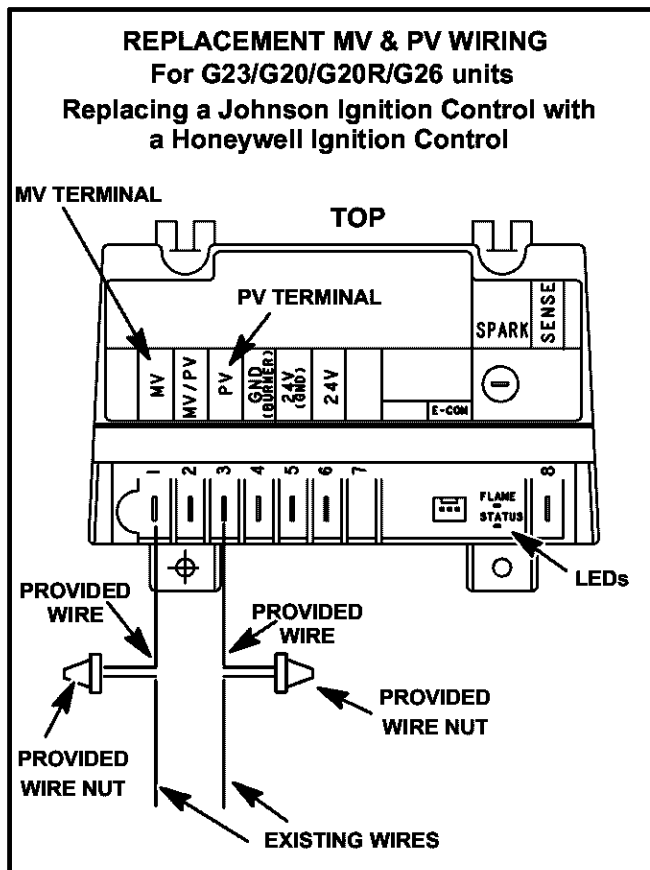

FIGURE 3
- 6 - Reconnect the marked wires to the new control as shown in figure 3 and as outlined below: